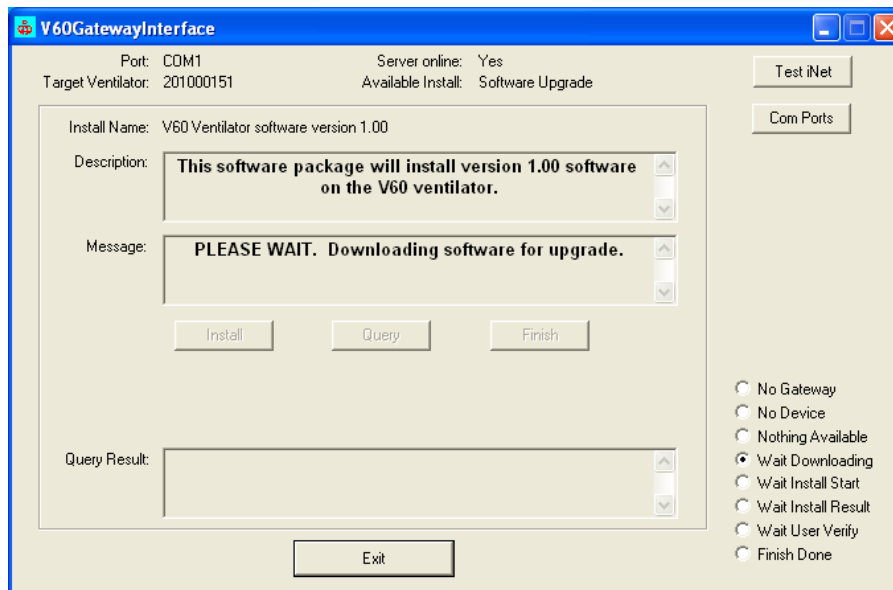

Figure A-1: Software Package Screen
4. Within 60 seconds, the GatewayInterface screen appears on the PC monitor if a software package is pending (Figure A-1).